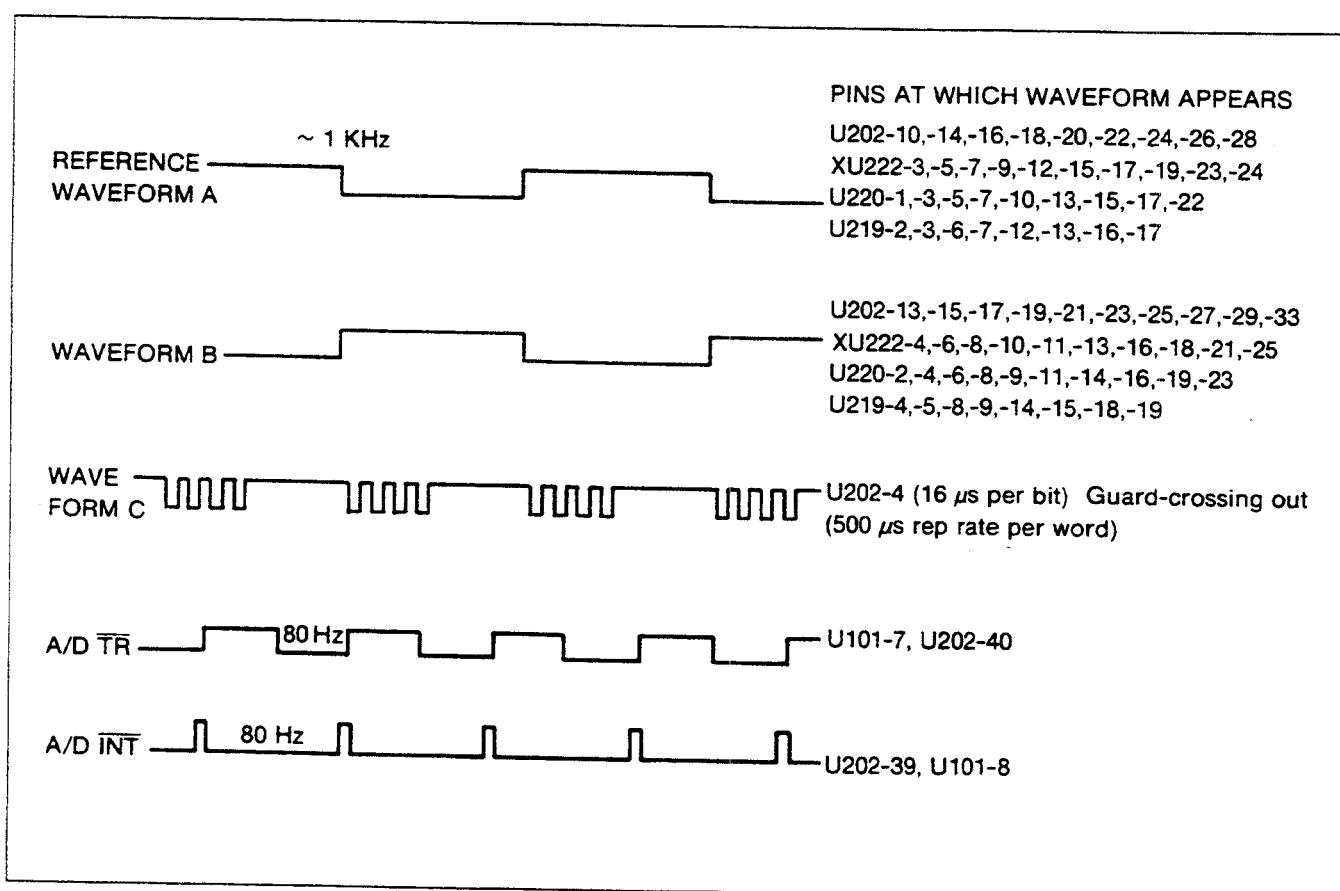

Figure 6-10. Waveforms for In-Guard Troubleshooting Mode
5. Guard-crossing test pattern (U202-4): Waveform C (see Figure 6-10).
- Output test patterns (see Waveforms A and B in Figure 6-10): 1 kHz square wave on indicated pins, 50% duty cycle, low 0V, high 3.8V nominal. (The waveforms are interrupted every 1.5 sec for 0.2 sec due to interrupts from the watchdog timer.) To observe these patterns, remove U220, attach a logic clip to address latch U219 and sync on U219-3 for Reference Waveform A on channel 1 of a dual trace scope. Compare channel 1 with waveforms at U202-10, -14, -16, -18, -20, -22, -24, -26, -28. These should all be the same as reference Waveform A (including phase). Then compare channel 1 with waveforms at U202-13, -15, -17, -19, -21, -23, -25, -27. These should be the same as Waveform B, which is simply the opposite phase of Waveform A.
Verify that U219-2, -6, -7, -12, -13, -16, -17 are the same as Waveform A (see Figure 6-10) on U219-3. Verify that U219-4, -5, -8, -9, -14, -15, -18, -19 are the same as Waveform B. The waveforms should be interrupted every 1.5 sec for 0.2 sec due to interrupts from the watchdog timer.
Sync on U219-3. Verify that XU222-3, -5, -9, -12, -15, -17, -19, -23, -24 are the same as Waveform A (see Figure 6-10) on U219-3. Verify that XU222-4, -6, -8, -10, -11,